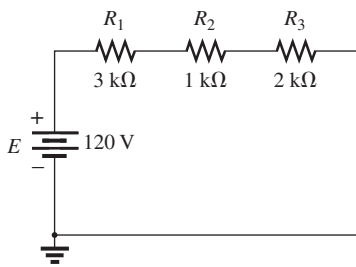

FIG. 5.96
12. For the circuit in Fig. 5.96, constructed of standard value resistors: